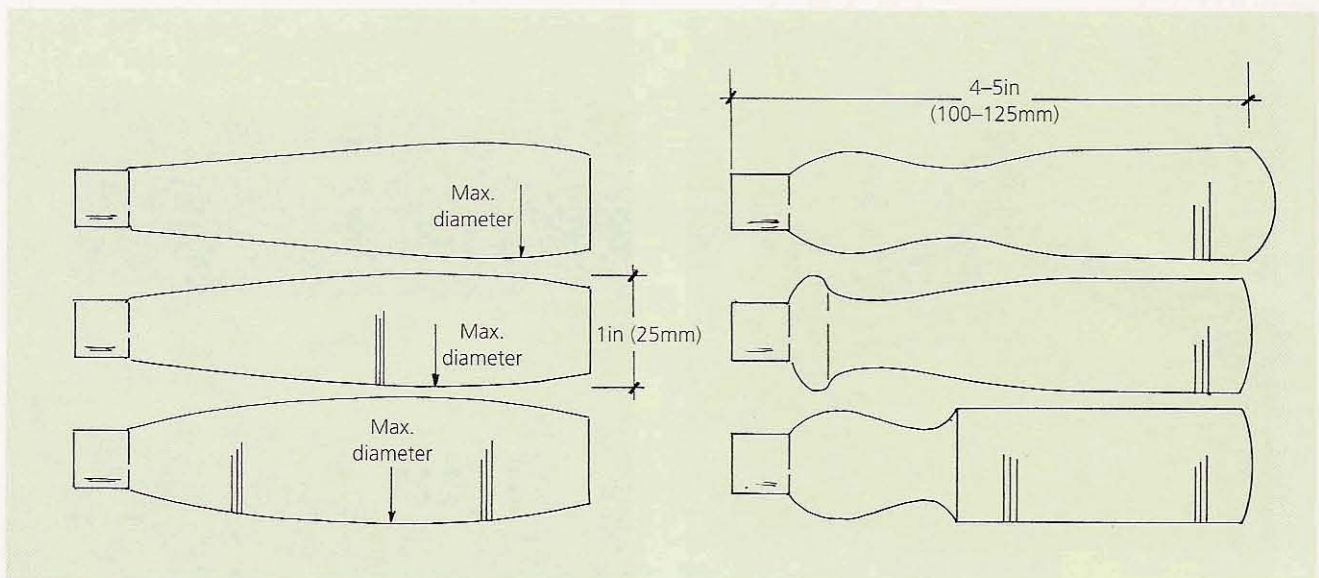

Fig 3.12 Some possible handle shapes and approximate sizes. The maximum thickness of the row on the left can, of course, be varied to suit the tool or the user
- A carving tool that is struck a lot with a mallet might be held better with a more wedge-shaped handle – a shape which grips into the hand. The wedge does not want to be too conical; this in itself can feel uncomfortable. Fatter, barrel-like shapes tend to pop out of the hand. The concavity of a wedge-and-ball, **London pattern** or pattern-maker's handle (bottom right in Fig 3.12) gains a good purchase for the first finger and thumb.